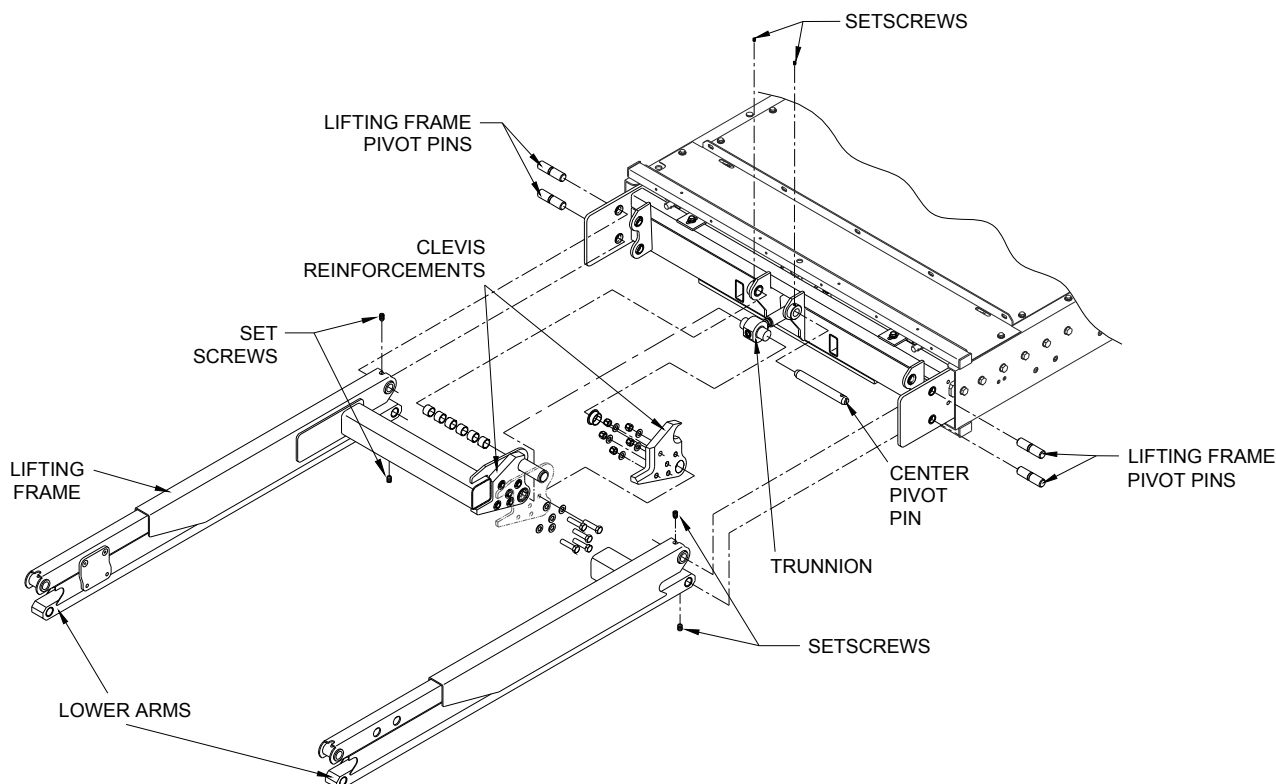

FIGURE 4-34: LIFTING FRAME COMPONENTS
- c. Refer to **Figure 4-34**. Remove four setscrews securing lifting frame pivot pins. Remove two setscrews securing center pivot pin.